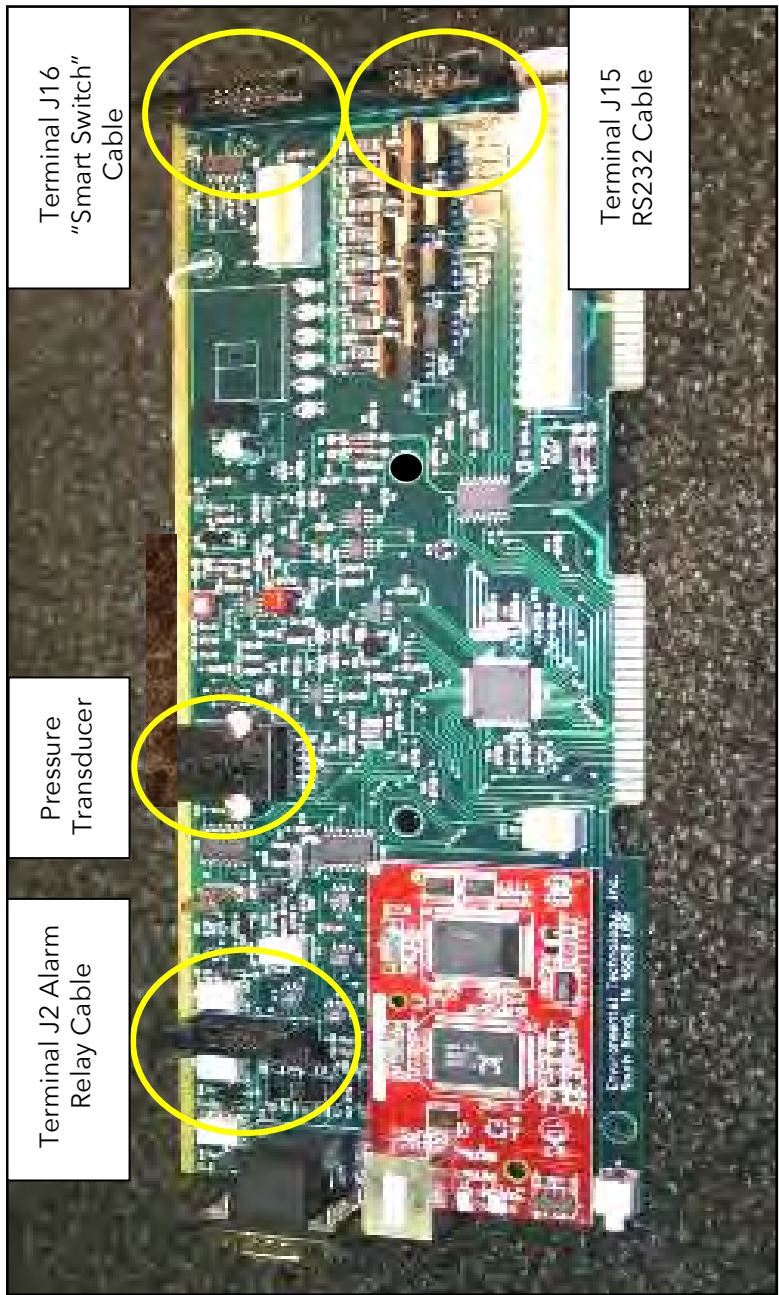

Figure 1b. THE ADH NETCOM MAIN CIRCUIT BOARD ASSEMBLY.
4. Once the front and top panels have been removed, disconnect the "Smart Switch" cable, if present, and the RS232 cable from the two receptacles on right side of the circuit board. The "Smart Switch" cable is the upper one; the RS232 cable is the lower one. Disconnect the Alarm Relay cable from the receptacle on the left side of the board. Refer back to Figure 1b. Gently fold back the release handles and the cable will disconnect.